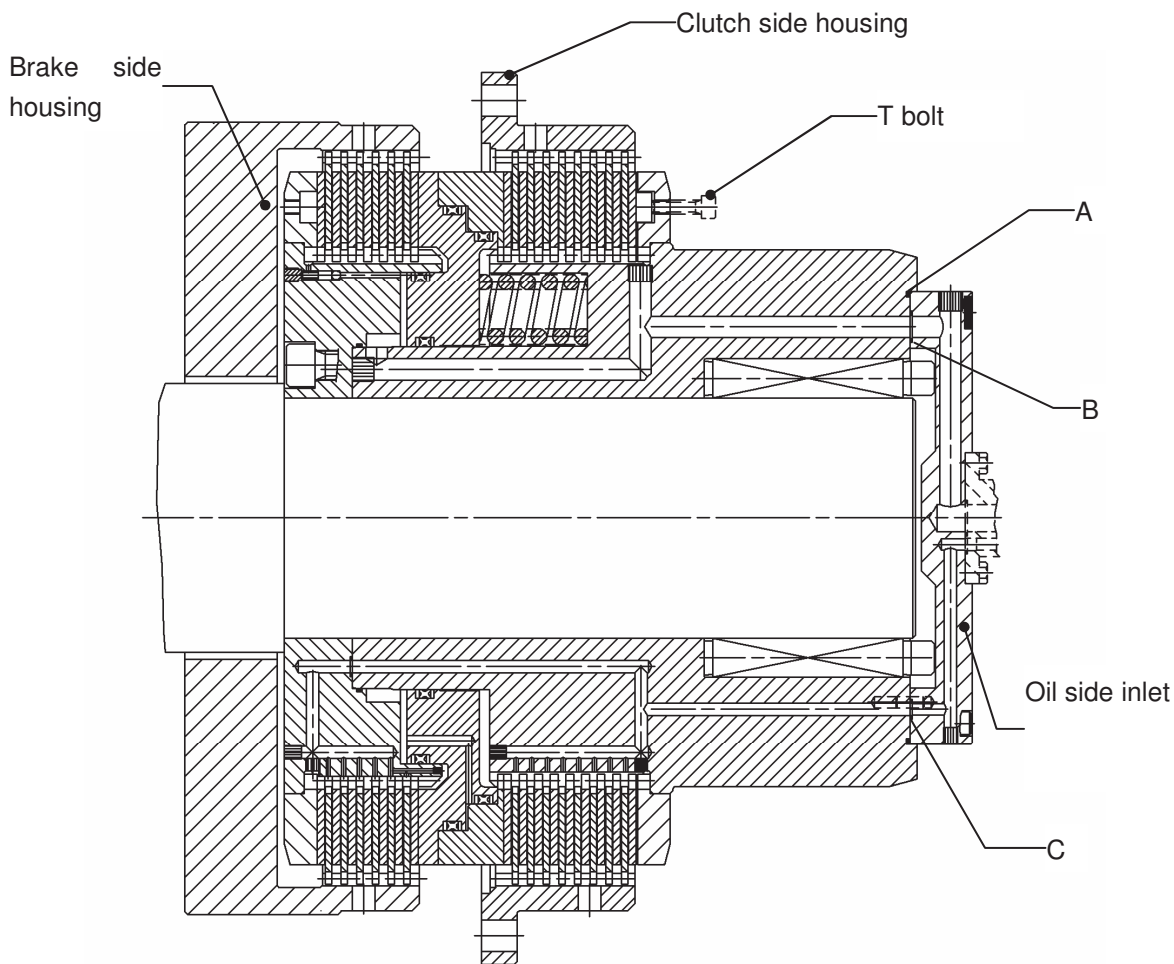

Fig. 5
5. If the clutch-brake unit counts with lateral oil inlet, fix it to the clutch side hub (see Fig. 5) with the rotary coupling (supplied upon request). Assure that the o-rings are in their position (A, B and C in Fig. 5).